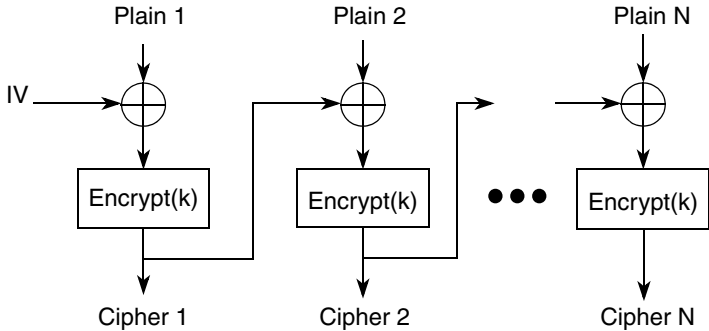
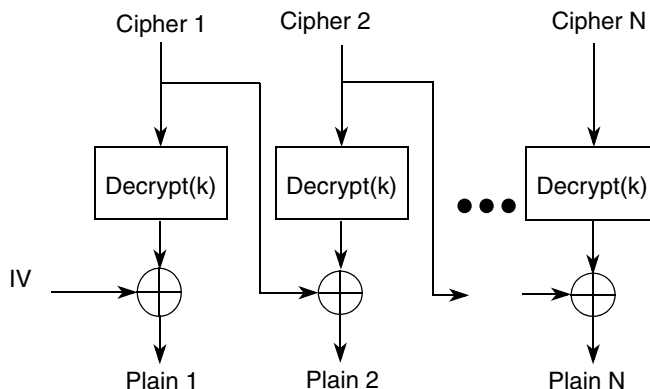

Figure 28-5. CBC Encryption
**Figure 28-6. CBC Decryption**
Cipher Block Chaining mode encrypts the output of the previous block with the current block input as shown in Figure 28-5. For decryption, the previous ciphertext block is mixed with the decrypted block as shown in Figure 28-6. A 128-bit random initialization vector (IV) must be loaded prior to processing a message. The context registers are updated internally and must be read and restored during a context switch.